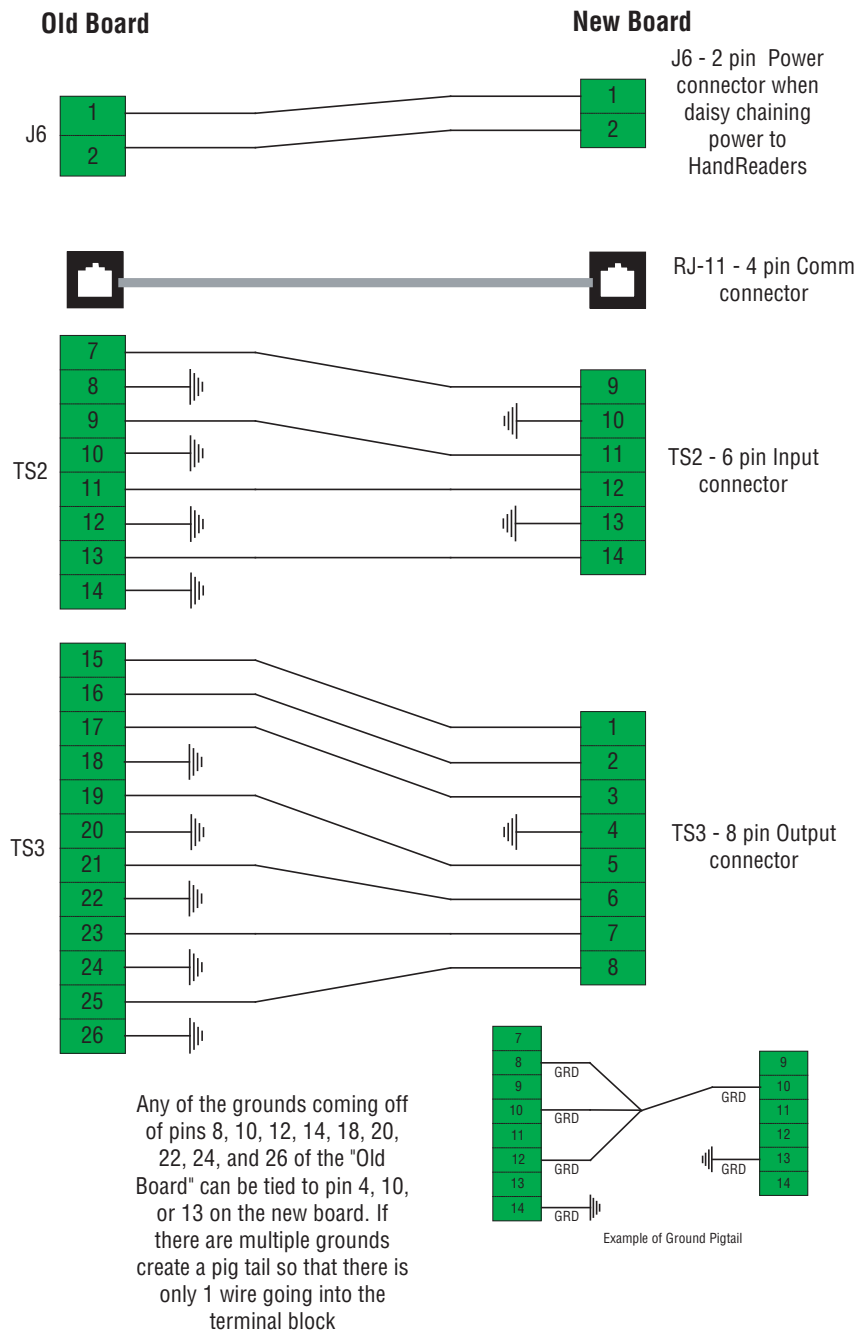

Figure 11-2
- The configuration of the terminal strips have changed. See "Figure 11-2" on page 74.